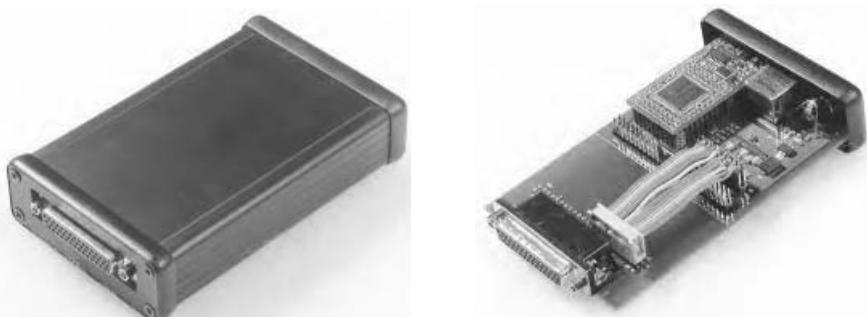

Figure 29.3 The Gluon.
artist Jens Brand, and software/hardware hybrid instruments for Richard Barrett (UK/Germany), Annette Begerow (Germany), Steve Coleman (USA), Axel Dörner (Germany), Walter Fabeck (UK), Sabine Schaefer (Germany). In 2004 he designed the "Gluion," a general purpose, configurable interface between sensors and computers (see figure 29.3).
The I-Cube from Infusion Systems and Eric Singer’s MidiTron are less expensive, computer-configurable, sensor-to-MIDI interfaces that can control MIDI devices directly or can connect to a computer for further processing of the raw sensor data. CH Products manufactures an inexpensive joystick development circuit board that lets you read thirty-two switches and ten analog channels through your USB port (see figure 29.2). Sukandar Kartadinata’s “Gluion” is a high-speed Ethernet interface that can be configured for a wide range of sensors (see figure 29.3). Similar systems are available from a number of other sources. Prices range from under one hundred dollars to several thousand dollars. Some of these interfaces are bi-directional, allowing you to send control information through them to external relays, motors, etc., as well as receive data from various sensors.